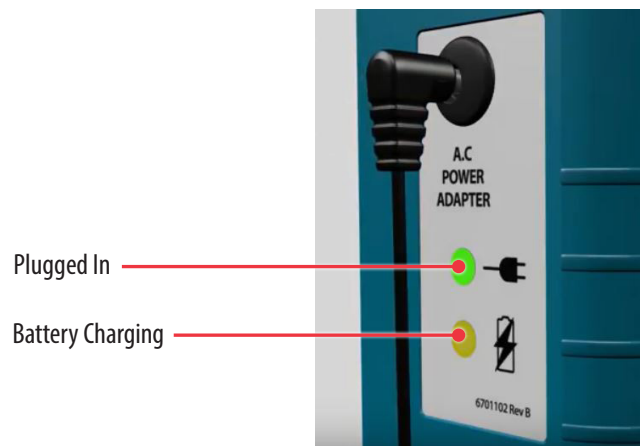

Figure 3
3. When the CATALYST™ is connected to an outlet, the green light next to the Plugged In symbol comes on (**Figure 3**). If the battery is charging, the yellow light next to the Battery Charging symbol comes on. Once the battery is fully charged, the light goes off.